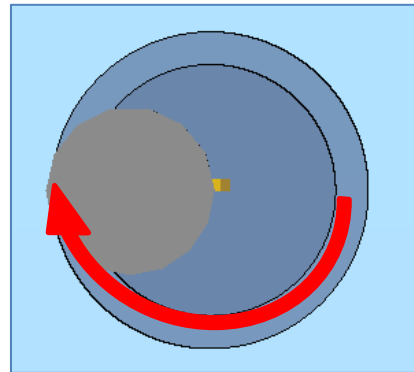

Fig. 6-2
- block N350, the mill enters with an arc of 180° up to the finished depth to be milled, contemporarily the mill translates along the Z-axis a half pass (**Fig. 6-2**),